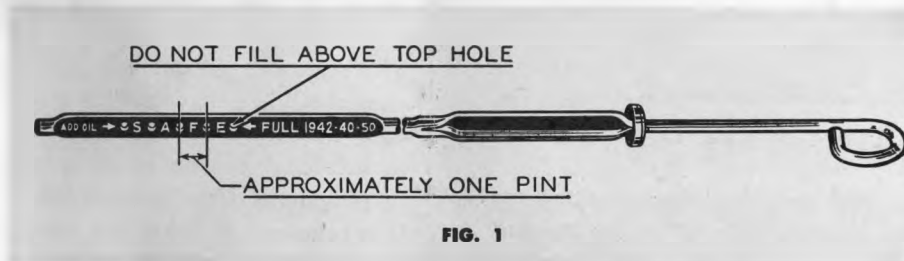

FIG. 1
There has been some comment regarding the oil gauge rod, Fig. 1, on the above models being read incorrectly. In some instances the distance between the holes on the rod has been taken to represent one (1) quart of oil. As this distance actually represents approximately 1 pint, shown in Fig. 1, the addition of 1 quart would raise the oil level above the "Full" mark. This excessive oil is burned off rapidly, presenting a false oil consumption.